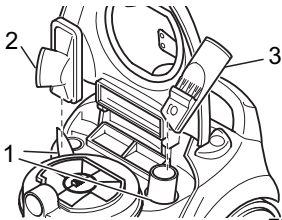

Fig.5
**Upholstery nozzle (Fig. 5/2)**